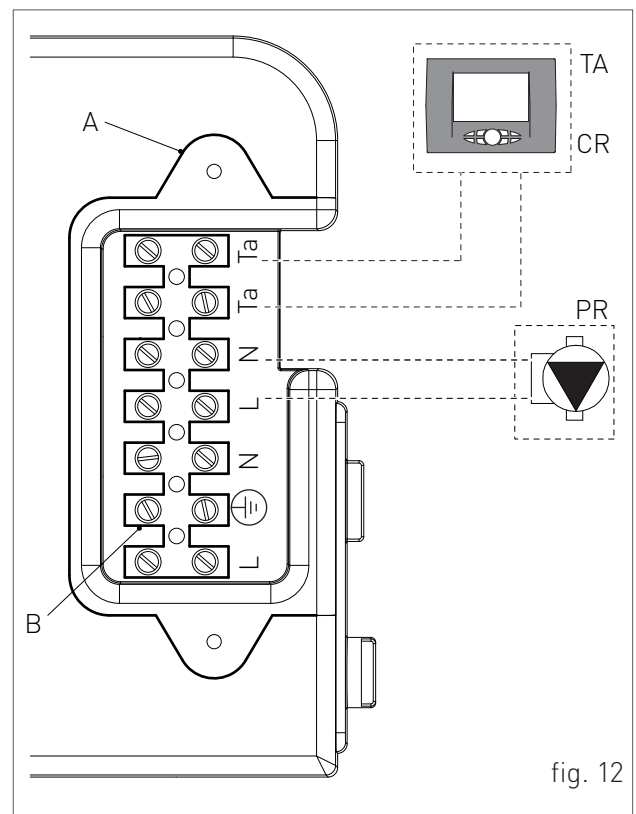

fig. 12
- › unscrew the screws and remove plate "A" (see fig. 12).
- › After removing the plate, connect the electrical cables to terminal "B" (see fig. 12):